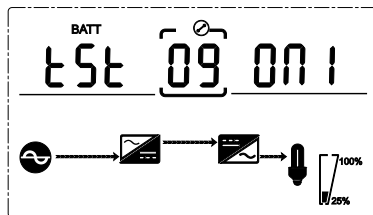

Fig. 4-22 Autotest ON1
- When choosing **ON1**, UPS can transfer to Battery Mode automatically per 30 days. And the Battery Self-test time is **10 seconds** (Fig. 4-22).